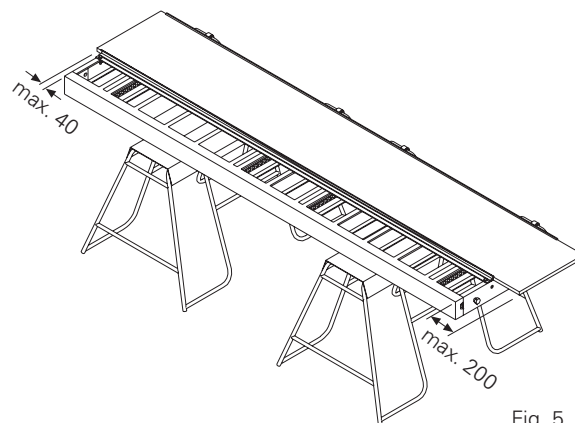

Fig. 5
- above max. 200 mm with crane lifting unit Fig.5